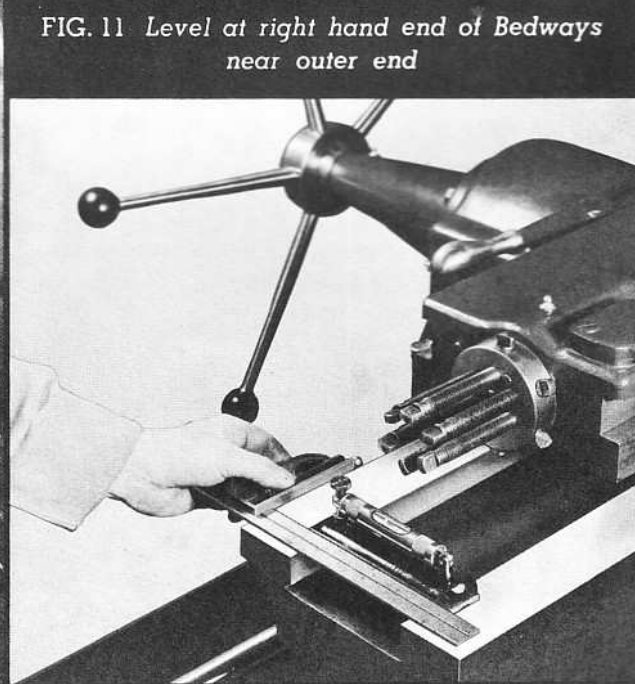

FIG. 11 Level at right hand end of Bedways near outer end
2. Without changing its adjustment, move the level and square to the outer end of the bed as in Fig. 11. Place it again at right angles to the center line. Now bring the bubble to center by adjusting the leveling screws on the right hand leg of the turret lathe. (See (5) and (6), Fig. 9).